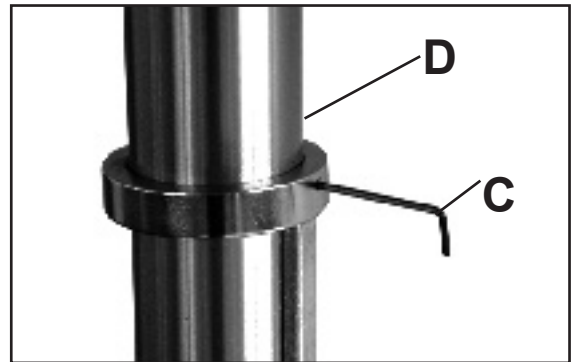

Figure 2
3. Using an allen wrench (C-Fig. 2) remove the column collar (D-Fig. 2) as shown.